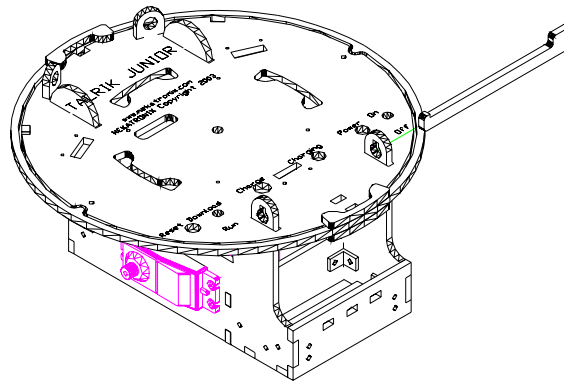

Figure 18. The above drawing illustrates a complete body assembly without wheels, sensors, switches, LEDs, cables or connectors.
8. Secure the top (now horizontally to the floor) and insert the key (**Figure 18**).